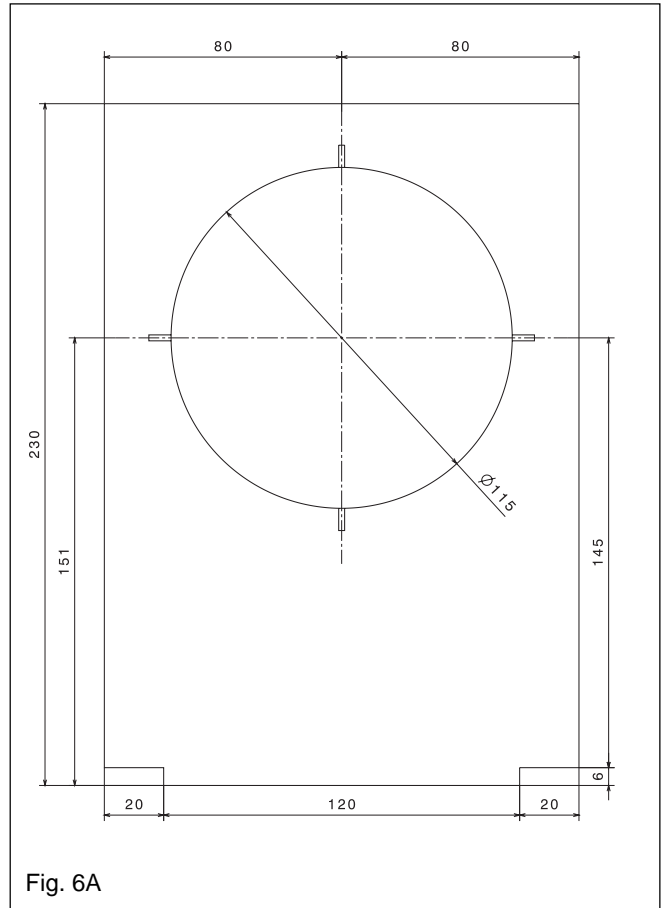

Fig. 6A
**4.4 PREPARATION FOR MOUNTING THE APPLIANCE (see fig. 6A)**
When the position of the appliance has been decided, carefully mark the position of the combined fixing jig and wall-mounting bracket (see fig. 6A), and – using the template supplied – mark the position of the flue-hole (if applicable).